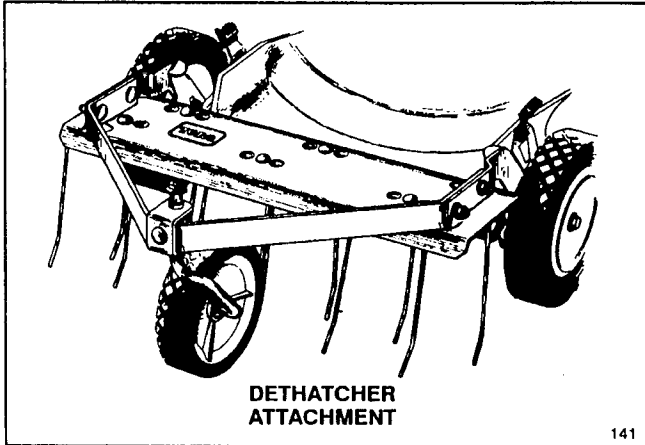

Figure 23
1. Dethatcher Kit, Model No. 59131—Installs in minutes. Front mounted for easy maneuverability. Spring tines loosen thatch for clean vacuuming into grass bag (Fig. 23) and convenient disposal.